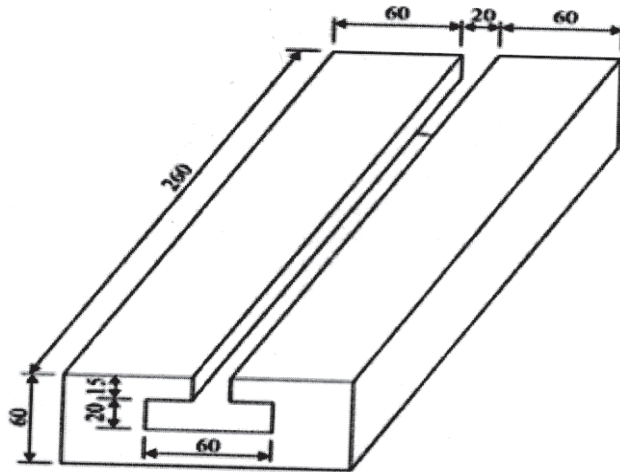

fig. 7a
**Q7) a)** A T-slot is to be cut in C.I. slab as shown in fig. 7a. Estimate the machining time. Take cutting speed 25 m/min, feed is 0.25 mm/rev. Diameter of cutter for channel milling is 80 mm Assume suitable data if required with justification. [10]